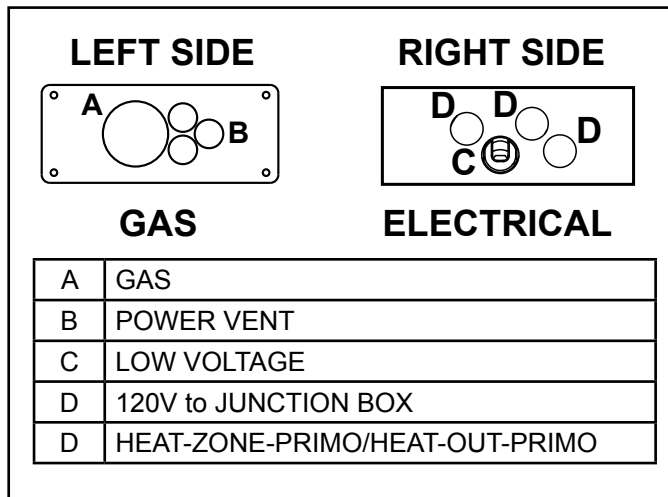

Figure 8.1 Access Plates
- See Figures 8.1, 9.7 and 9.8 for routing electrical power from the appliance to the power vent (PVI-SLP-B or PVLP-SLP), wall switch and PowerFlow™ Heat Management System.
2. Route the wire through the access plate using a strain relief and down through the wire slot located behind the junction box. See Figure 8.1 and 8.3.